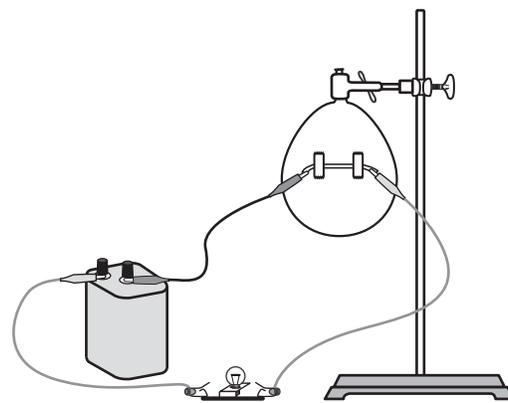

Figure 2.
- Using three connector cords with alligator clips, connect a 6-V lantern battery, the lightbulb, and the aluminum strip in series (see Figure 2). Be sure the metal of the alligator clips is not touching any part of the balloon.